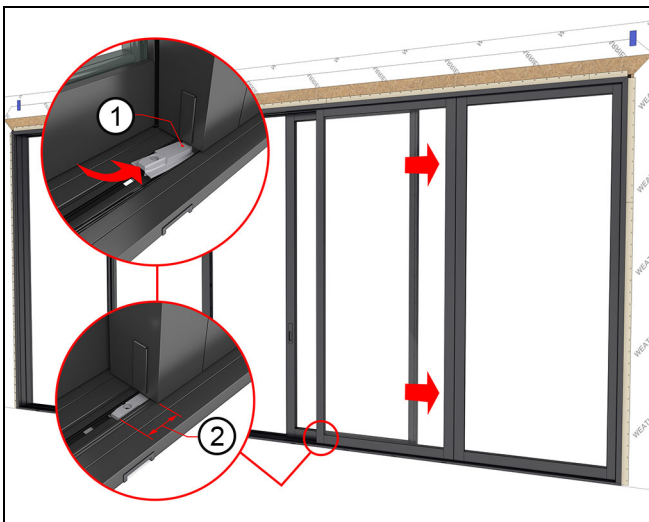

Figure 139
10. Snap the lower stationary bracket onto sill, then slide underneath the (C) stationary panel until fully seated. The bracket should stick out approximately 2 1/4" (57) from panel when fully seated. Do not fasten the bracket until all the panels are installed and adjusted. See Figure 139.